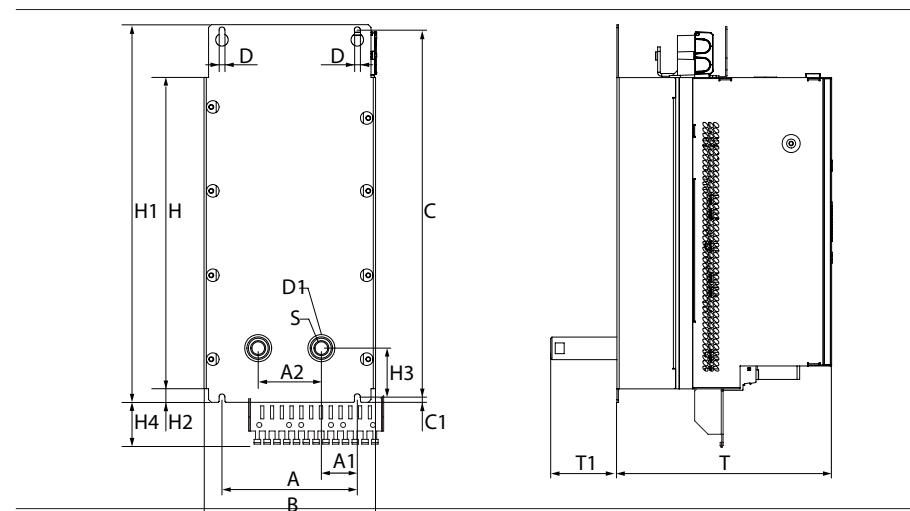
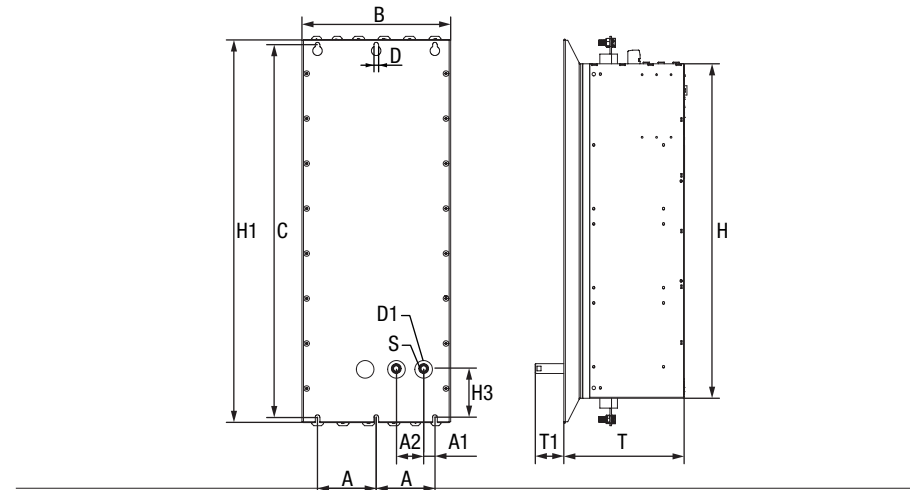

Figure 3.15 Dimensional drawing, liquid cooling housing variant, based on Size 5 as an example
Figure 3.16 Dimensional drawing, liquid cooling housing variant, based on Size 7 as an example
2.	<p>Mark out the position of the tapped holes and the pipe fittings on the backing plate. Drill holes and cut a thread for each fixing screw in the backing plate. Pay attention to the bending radius of the connection cables!</p> <p>For hole spacing and dimensional drawings see Table 3.2, Figure 3.15 and Figure 3.16.</p>